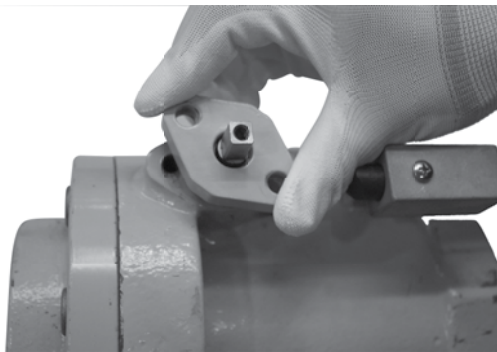

Figure 3. Turn gland retainer (step 3)
1. Remove the operating handle (key 18), fuse link assembly (key 22) and retainer (key 24) by unscrewing the bolt (key 23).
2. Take out the two gland bolts (key 33).
3. Turn the gland retainer (key 32) 1/2 turn counterclockwise, refer to Figure 3.
4. Remove the gland retainer from the gland (key 27).